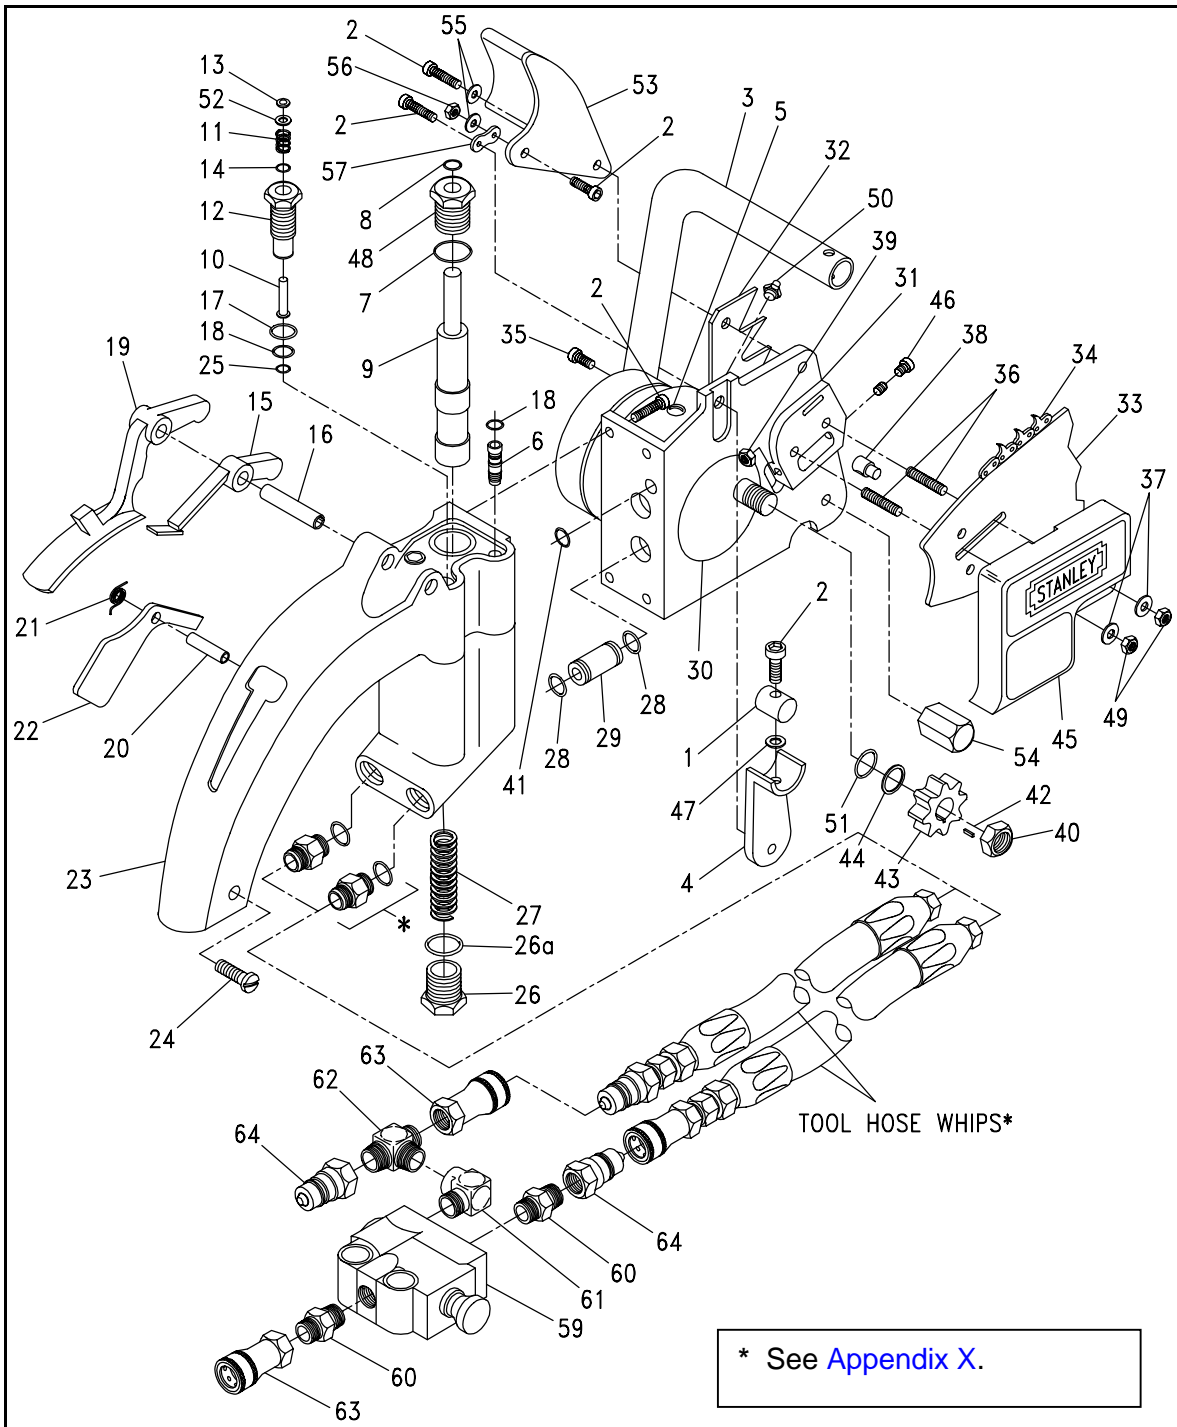

Figure Q-2. Chainsaw Components (Sheet 1).
- a. Figure Q-2 illustrates the parts breakdown for the Chainsaw.